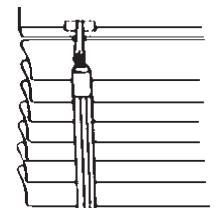

Fig. 20
- Slide the plastic back down over the hook until it is back in the closed position (fig. 20). You will then be able to tilt the louvers of the blind by turning the wand. Approximately 4 revolutions of the wand are required to tilt the slats from fully closed in one direction to fully closed in the opposite direction.